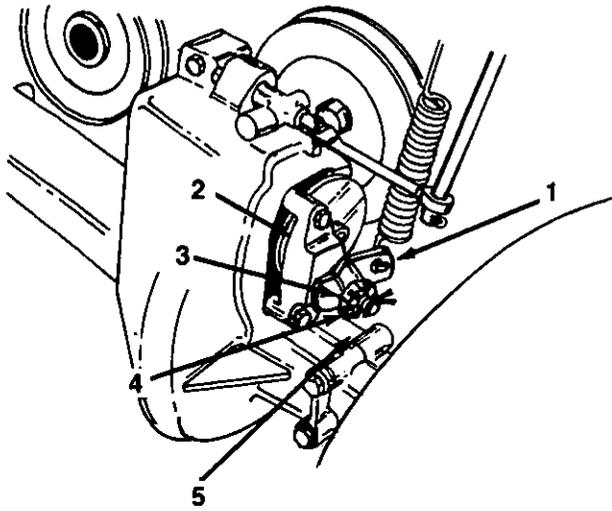

FIGURE 1.
1. The brake is located by the left rear wheel inside the frame. During normal operation of this machine, the brake is subject to wear and will require periodic examination and adjustment. See figure 1.
Figure 1 is shown with the unit tipped up on rear wheels for clarity only.